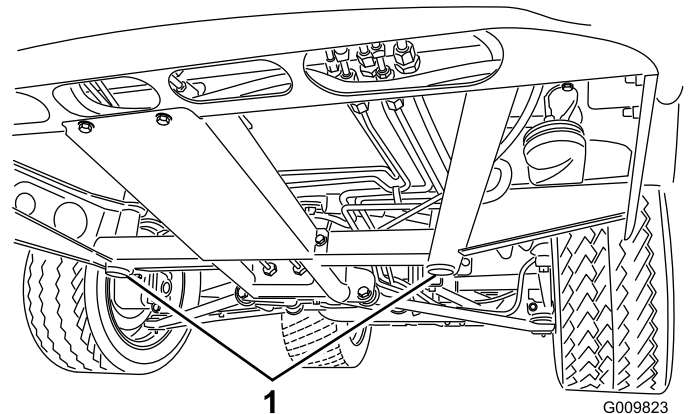
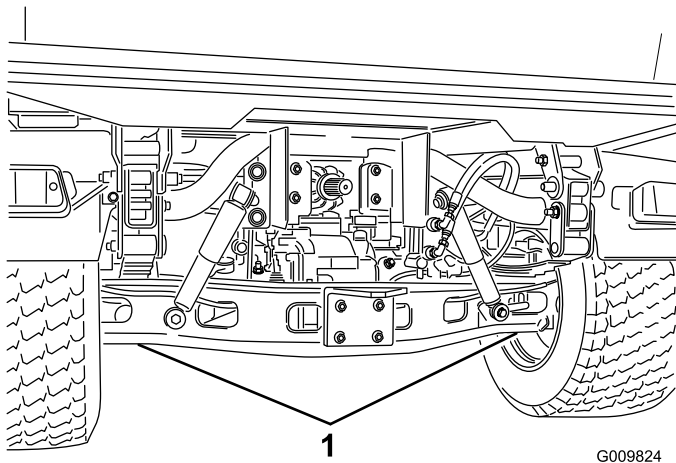

Figure 32
Figure 33
- The jacking point at the front of the machine is under the front center frame support (Figure 32) and at the rear it is under the axle (Figure 33).